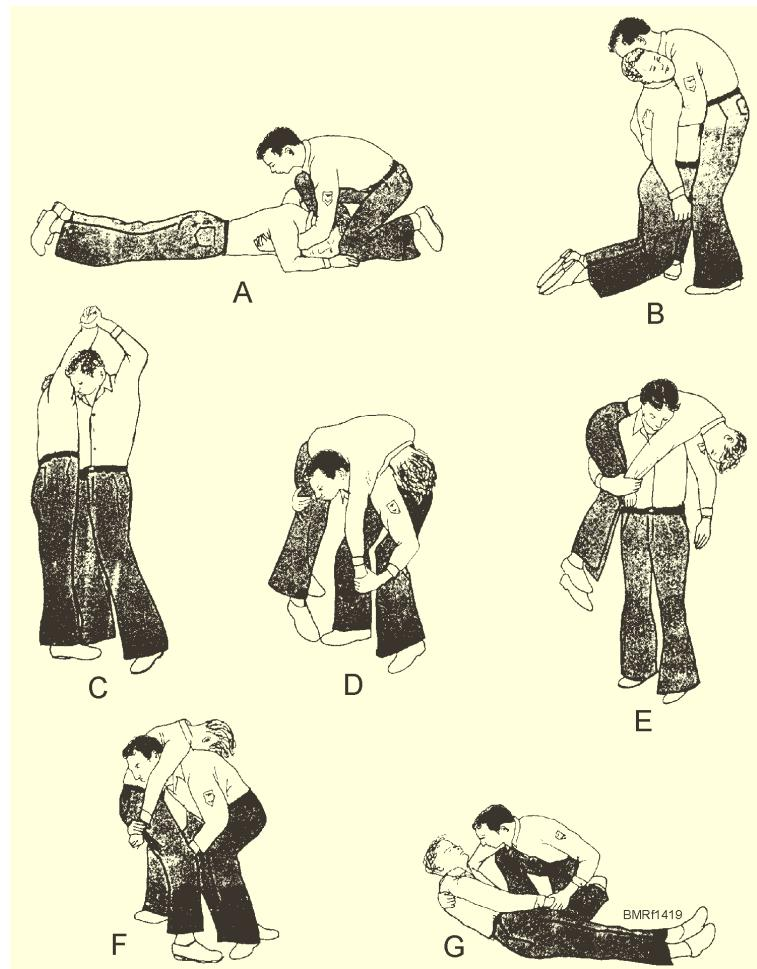
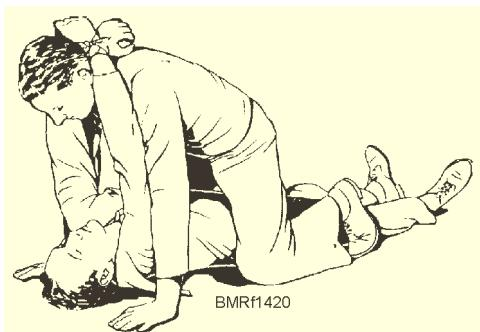

Figure 14-19.—Fireman's carry.
Figure 14-20.—Tied-hands crawl.
If you don't have any help, there are several methods you can use to move a victim alone. One method is simply to pick up and carry the victim in your arms, but it can be quite a task if the victim weighs more than you. If a blanket is handy, the victim can be placed upon it and dragged. Two other means are the fireman's carry (fig. 14-19) and the tied-hands crawl (fig. 14-20).
One of the easiest ways to carry an unconscious person is by the fireman's lift, also called the *fireman's carry* (fig. 14-19).
1. Place the victim face down, as shown in figure 14-19, view A. Kneel on one knee at the head, facing the victim. Pass your hands under the armpits.
2. Raise the victim, as shown in figure 14-19, view B. Take a better hold across the back.
3. Raise the victim to a standing position and stick your right leg between the victim's legs, as shown in figure 14-19, view C. Grasp the victim's right wrist in your left hand and swing the arm around the back of your neck and down your left shoulder.
4. Stoop quickly and pull the victim across your shoulders and, at the same time, put your right arm between the victim's legs, as shown in figure 14-19, view D.
5. Grasp the victim's right wrist with your right hand and straighten up, as shown in figure 14-19, view E.
The procedure for lowering the victim to the deck is shown in figure 14-19, views F and G.
The tied-hands crawl shown in figure 14-20 may be used to drag an unconscious person for a short distance; it is particularly useful when you must crawl underneath a low structure.